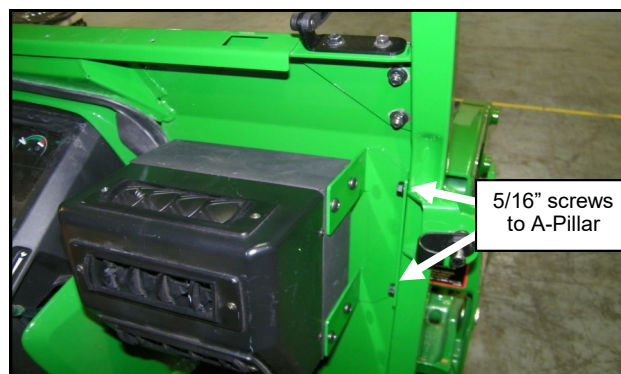

Fig. 20.2 (Install Heater)
Heater optional for cabs with vinyl curtain doors. If installing cab without heater, install 5/16-18 screws to A-Pillar to plug holes as shown in Fig. 20.2 and then proceed to Step 21.
- 20.2 Attach the heater bracket to the right A-Pillar. See Figure 20.2. Tighten hardware.